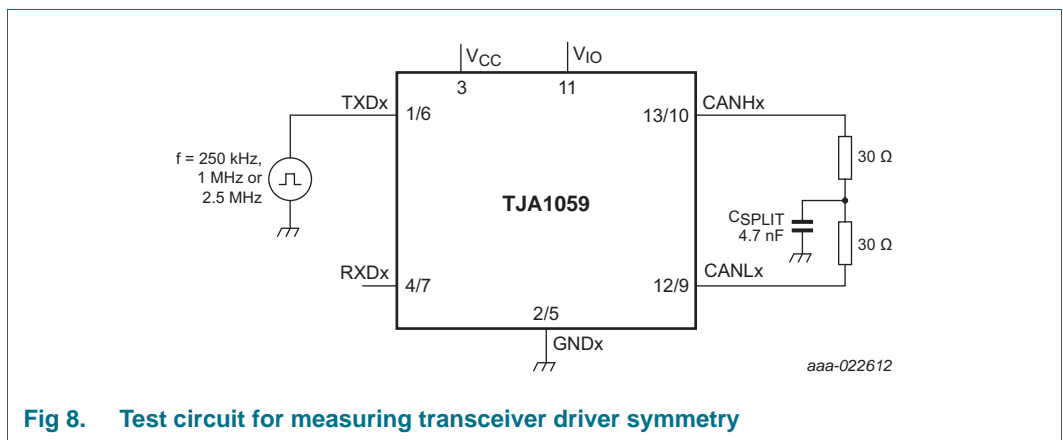

Fig 8. Test circuit for measuring transceiver driver symmetry
- [8] The test circuit used to measure the bus output voltage symmetry (which includes C_{SPLIT}) is shown in Figure 8.